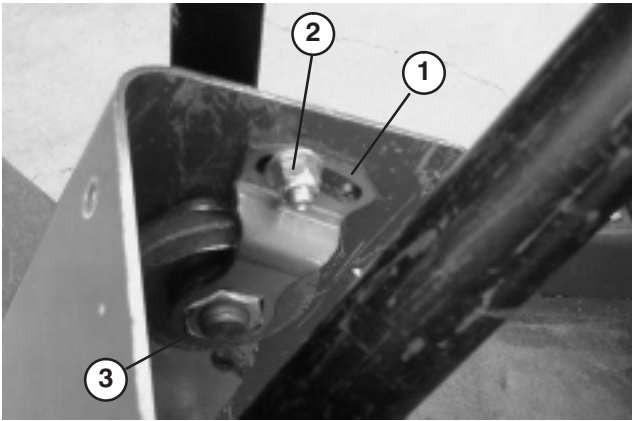

Figure 46
2. Slide cover up steering shaft to expose pivot bracket (Fig. 46).
3. Loosen small nut, rotate pivot bracket until it tightens large nut below (Fig. 46). Retighten small nut.